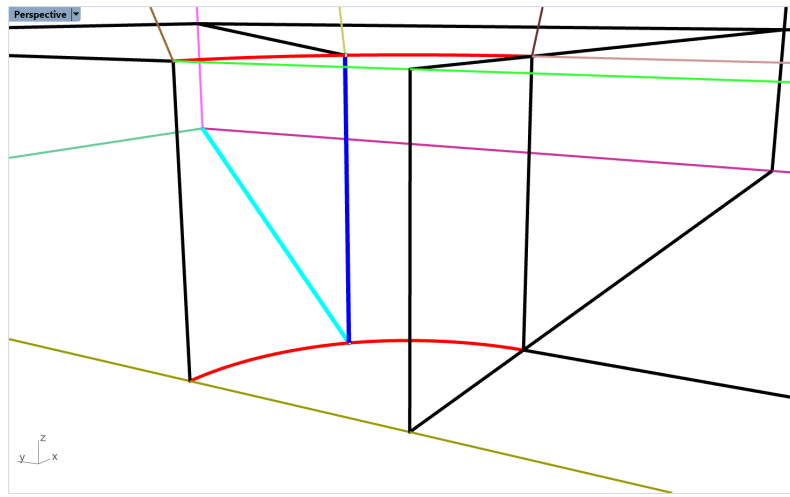
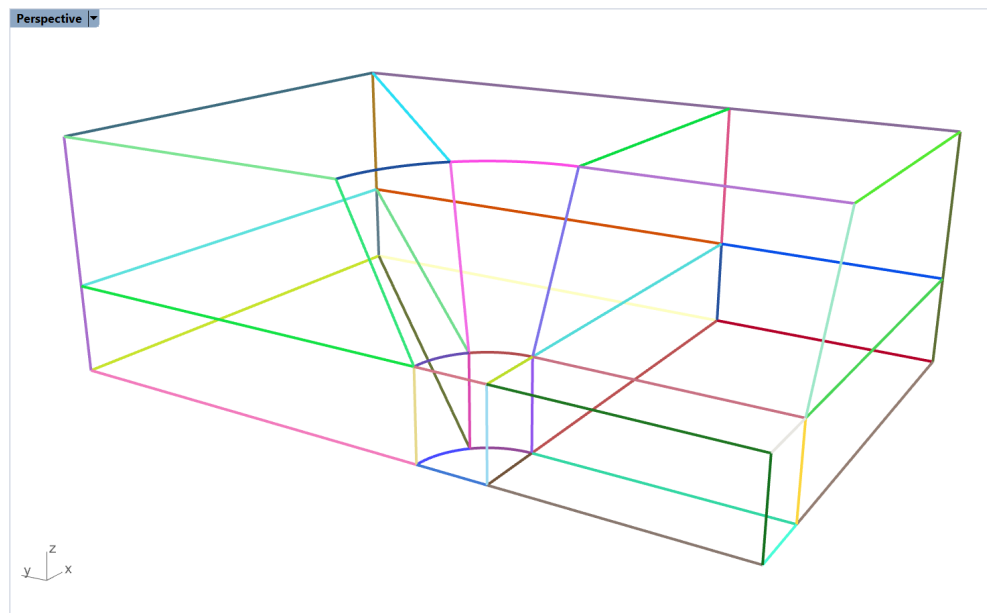

Figure 41: Connecting the middle ends of the arcs (blue lines).
Figure 42: Model wireframe ready to be used for block creation.
12. Connect the middle nodes as shown in Figure 41 with the dark blue line. Connect the bottom end of the dark blue line to the opposite corner as shown in Figure 41 with the light blue line.
13. Split all intersecting lines (mostly those from the reference model) by using the **\_Split** command. For this, first select the line to split and then select a line that intersects or connects to it. For example, the tan line at the bottom of Figure 41 can be split in three pieces by the connecting black lines. The resulting wireframe should contain 56 curves (**Ctrl+A** and check the number of selected objects) and is the basis for creating solid blocks (Figure 42).